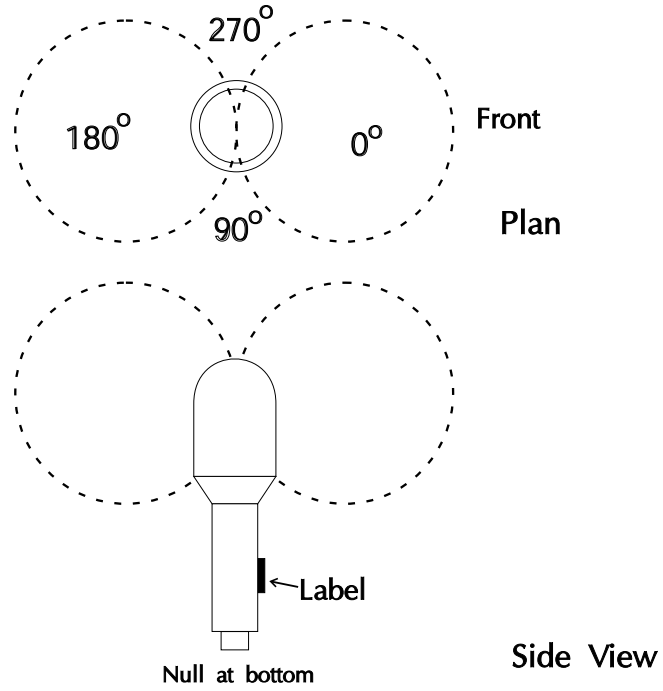

Figure 1: Figure of Eight: Angle, Azimuth, Elevation:  $0^\circ$
- Test 1** To speech check, start at the front of the microphone at about 150mm (6 inches) range and progress clockwise around horizontally, noting the signal peaks at 0° and 180° and the nulls at 90° and 270°. Similar nulls should also be found immediately over the top and underneath the microphone (see Figure 1 - Page 12)
- Test 5** Return the controls to forward facing, as in Test 1 and select 45° clockwise on the *azimuth* control. The peaks and nulls will now have moved 45° to the right of microphone front (ie halfway between Figures 1 and 2).
- Test 6** Repeat Test 5 with the *azimuth* control selected to 45° anticlockwise. The peaks and nulls will now be 45° to the left of microphone front. (Again, halfway between figures 1 and 2 but at 90° to Test 5).